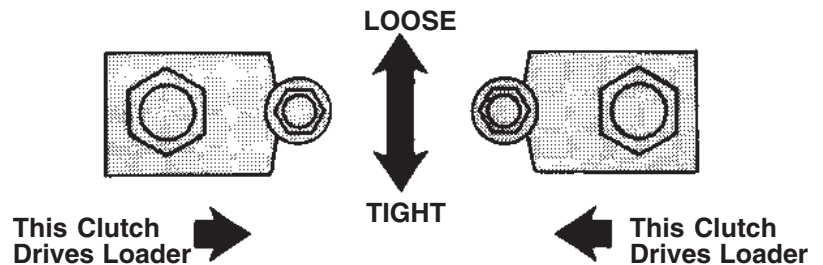

Fig. 32 Clutch Adjusting Procedures
2. Move the lever forward to check the adjustment. If the hand grip is more than 3" or less than 2" forward of neutral loosen the 3/8" locking nut (Fig. 32) at the rear clutch pin.
4. Put a mark by the adjustment nut for reference (Fig. 32). Turn the adjustment nut 1/8" or as necessary to increase or decrease the lever travel.